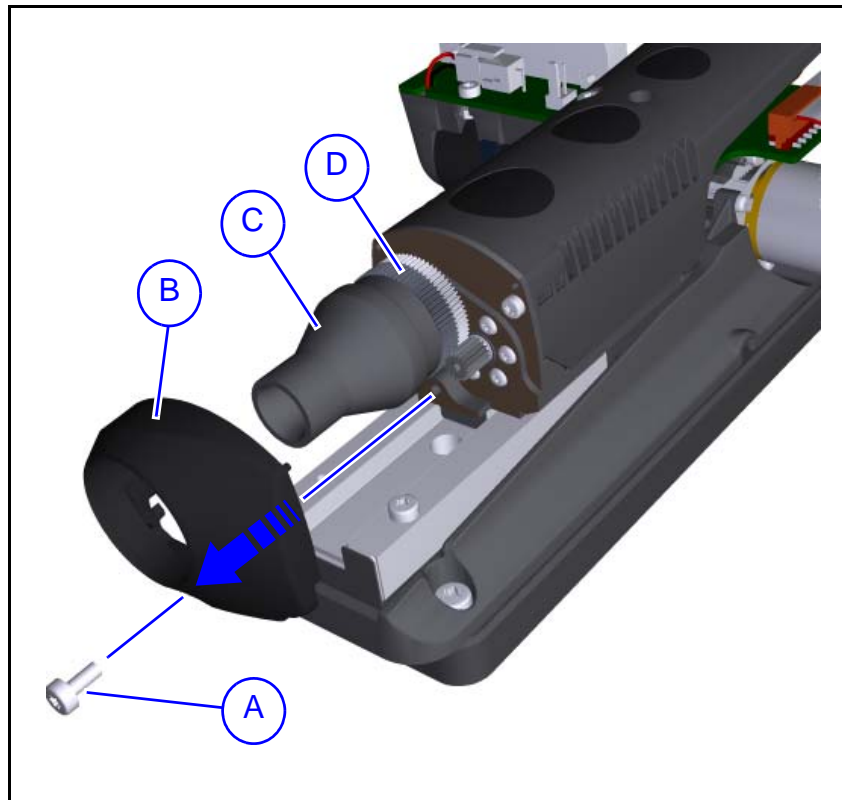

Figure 16-38. Midas gear stage.
1. To gain access to the gear stage, use a torx key to remove the screw ('A' in Figure 16-38) and the black plastic cover ('B').
Do not remove the tool holder ('C' in Figure 16-38).
2. Use a lint-free cloth to wipe off old grease and dirt from the gear stage ('D' in Figure 16-38) and apply a new thin layer of OKS 270 grease.